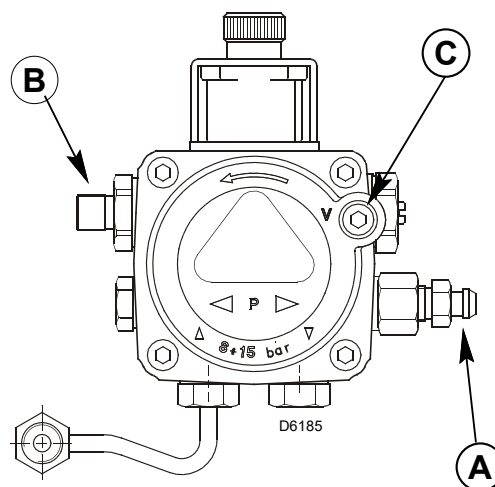

Fig. 16
To protect the pump gears, it is advisable to lubricate the pump prior to purging a lift system. Apply oil through the vacuum port C (Fig. 16).
- A Loosen the bleeder valve A (Fig. 16) until oil flows out. Tighten the bleeder valve securely and start burner.
- 1 Loosen the bleeder valve (A).